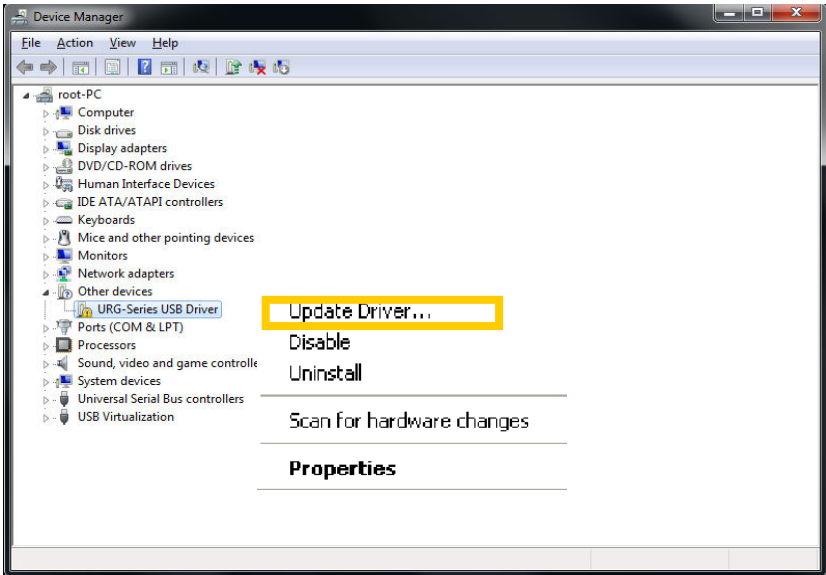

Fig A.2-1 Device Manager
- 1. First, power supply to the sensor, then connect sensor to the computer with a USB cable, and open “Device Manager”. In the case when the driver has not been installed, the icon as illustrated in Fig. A.2-1.will be displayed.